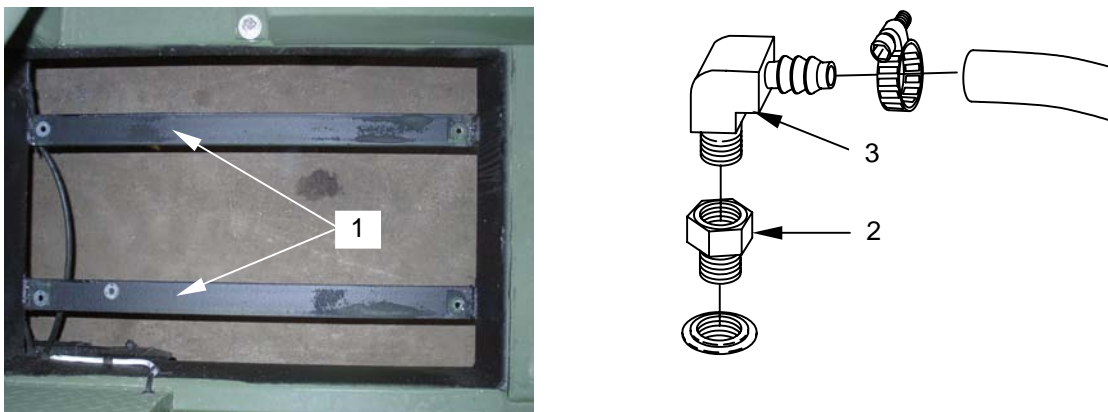

Figure 3. Removing Hardware
5. Remove the fuel tank from the trailer frame brackets (**figure 3, item 1**).
6. Remove tank (**figure 3, item 2**) and elbow hose fitting (**figure 3, item 3**) from fuel tank.
7. Applying pipe sealant to threads of new or retained fittings (**figure 3, item 2 and 3**), install fittings onto the new fuel tank.